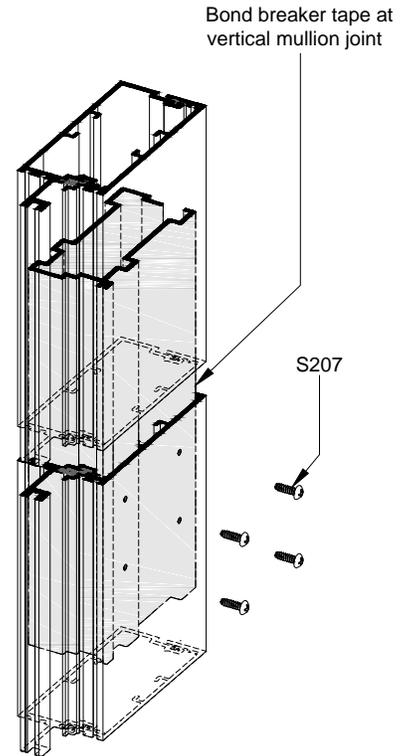

Fig. 42.3
- When verticals are in place, remove the tape to allow splice sleeves to drop into position inside the lower verticals. Fasten in place on both sides of mullion. See Fig. 42.3.